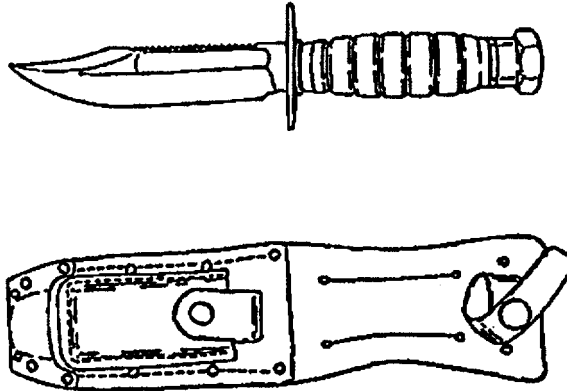

Figure 2-60. Knife, Hunting, with Sheath
- a. Knife, Hunting, with Sheath. The hunting knife (See Figure 2-60) is used in survival conditions for skinning game, self-defense, and for heavier cutting chores that the pocket knife cannot handle.